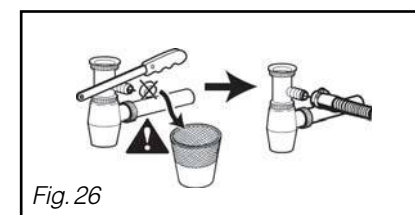

Fig. 26
- Or a sink trap (Fig. 26).
When connecting to a trap, you must remove the filler plug. Then press home the rubber tip. If necessary, add a clamp connection (Fig. 26).